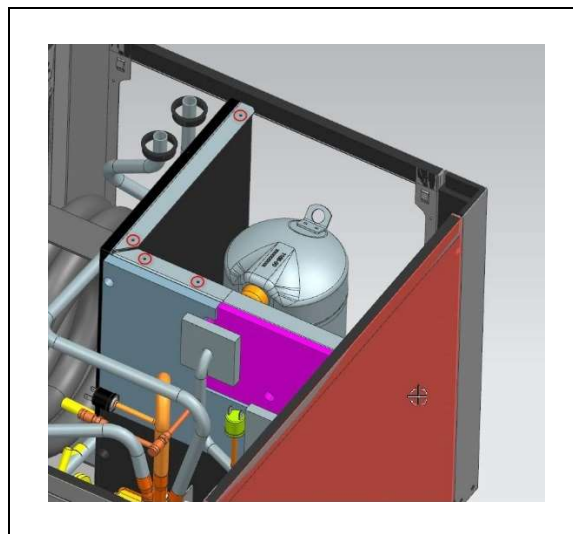

Figure 5. Divider encapsulation screw locations
- 1) Remove compressor encapsulation screws that attach the encapsulation to the divider (Qty 4). See Figure 5